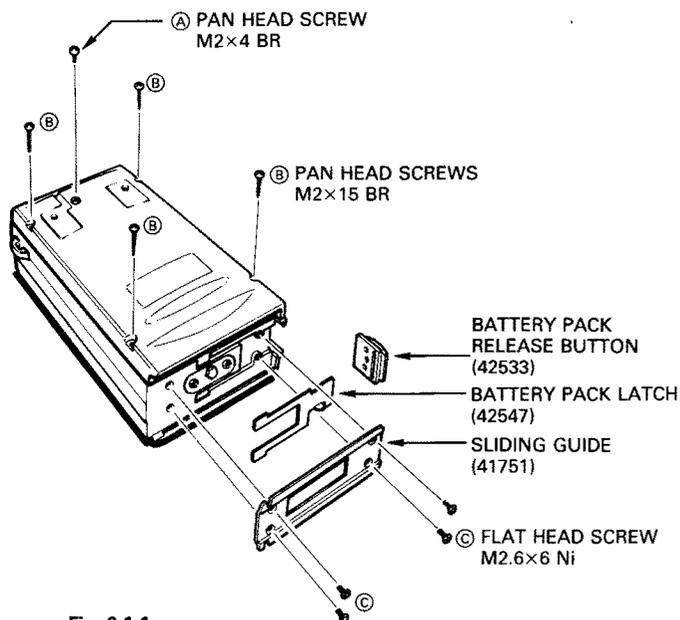

Fig. 6-1-1
2. Remove screw (A) and four screws (B) on the REAR PANEL, and four screws (C) on the bottom as shown in Fig. 6-1-1.